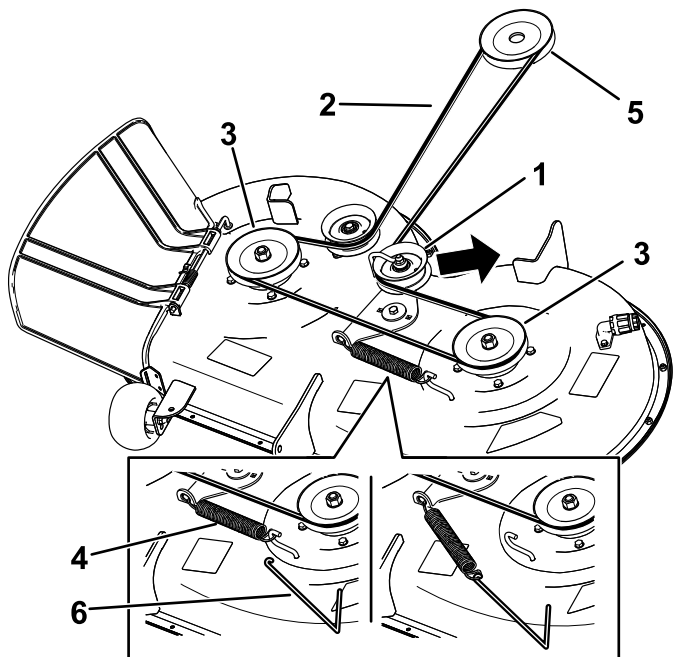

Figure 57
- Using a spring-removal tool (Toro Part No. 92-5771), remove the idler spring from the deck hook to remove tension on the idler pulley, and roll the belt off the pulleys (Figure 57).
- Route the new belt around the engine pulley and mower pulleys (Figure 57).
- Using a spring-removal tool (Toro Part No. 92-5771), install the idler spring over the deck hook and place tension on the idler pulley and the mower belt (Figure 57).